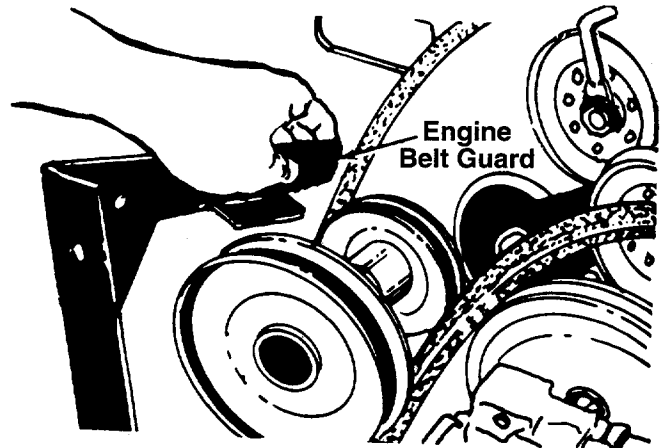

FIGURE 18.
7. Remove two hex bolts, nuts and lock washers from the engine pulley belt guard at lawn tractor frame to allow the engine pulley belt guard to drop down out of the way. See figure 18.